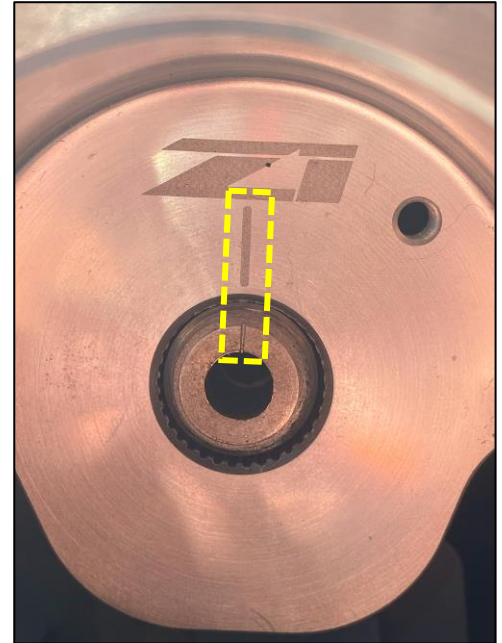

Figure 6
12. Remove the Button Controls from the Steering Wheel, they are held on by (2) two screws and (2) two Torx Screws on each side. Retain this hardware.
14. Place the Z1 Steering Wheel Hub Adaptor on the Steering Shaft. Feed the Horn Wire and the Button Control Wire through the openings if you are using them. Line up the Dash on the Hub Adaptor with the Dash on the Steering Shaft Splines. *Figure 6.*